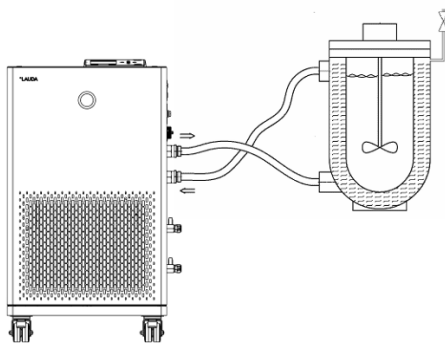

Fig. 36: Application with vent valve
- A vent valve Fig. 36 can significantly simplify the aeration process. For this purpose, periodically open the valve carefully and allow gas/air to escape until liquid escapes from the valve, and then close the vent valve again. Collect the liquid in a suitable container. Operate the valve again at regular intervals until no more air escapes.